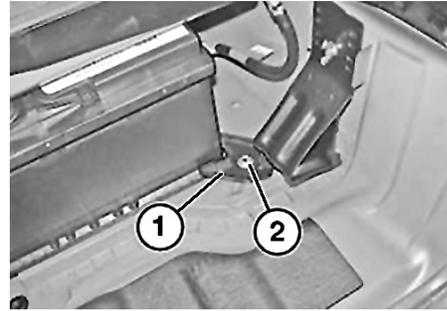

Fig. 4 Battery removal
12. Remove battery bracket bolt (2), Fig. 4.
13. Remove battery bracket (1), Fig. 4.
3. Install battery bracket (1), Fig. 4.
4. Install battery bracket hold down bolt (2) and torque to 92 inch lbs., Fig. 4.